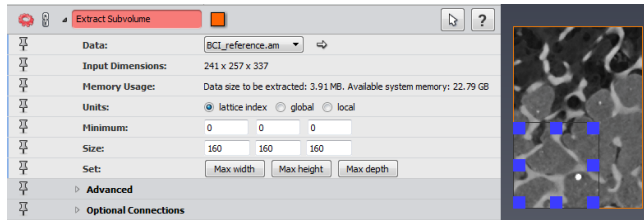

Figure 21.2: Extract Subvolume Module Properties
- Extract a region of interest in the bone-cement using an *Extract Subvolume* as shown in Figure 21.2